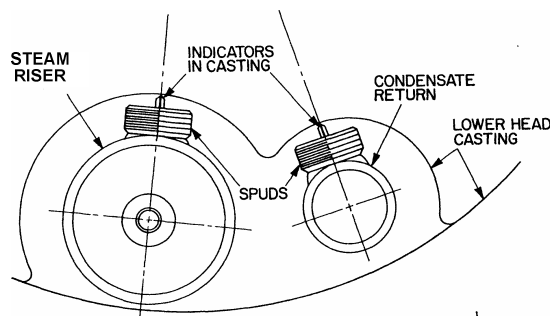

Figure SG-101-5. Alignment of Steam Riser and Condensate Return
- b. Tighten the Riser or Return taking care to line up the spud centers with the raised indicators on the bosses in the head casting as shown in Figure SG-101-5.